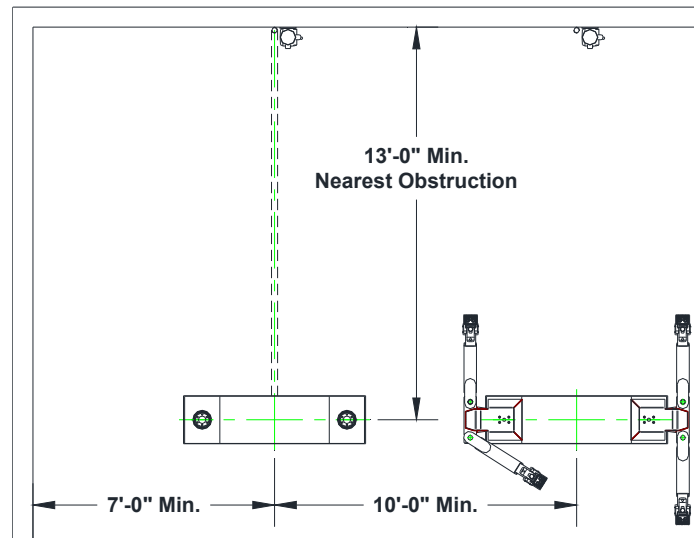

Fig. 1
Locate lift to allow plenty of working room on all sides. Allow room for workbenches at front of bay, aisles, lubrication equipment or other obstructions. Check overhead clearances. Ordinarily 12 feet is ample for automobiles. Observe the recommended minimums in **Fig. 1**.
2. Using a chain hoist and tripod, forklift, crane, etc. for lifting; lower the lift / containment assembly in the excavation being sure the PVC inlet hole is toward the power unit, until the top of the assembly is 1/8" to 1/4" above finished floor level and aligned with the previously determined center lines. Refer to Figures 1 and 3.
Be sure the adapters are in the lowered position and the arms are parked as seen in **Fig. 1** before attempting to drive on or off of the lift. Failure to do so may damage the adapters or vehicle.